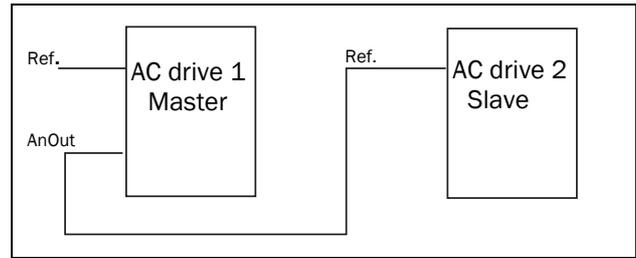

Fig. 131
- a reference signal for the next AC drive in a Master/Slave configuration (see Fig. 131).